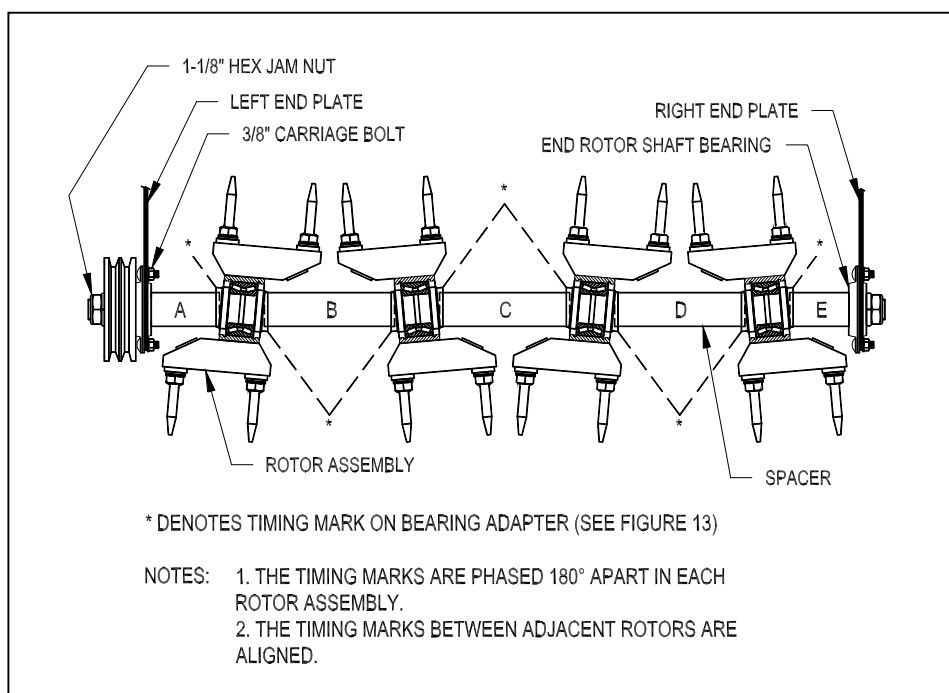

Figure 9. Rotor Shaft Assembly
3. Remove 3/8" carriage bolts holding end rotor shaft bearings (see Figure 9).
1. Remove the 1-1/8" hex jam nut from the shaft nearest to the damaged rotor (see Figure 9).
3. Install the required components in the sequence shown in Figure 9, double-checking the timing mark locations and spacer lengths (see following table) as each rotor is installed.
Reinstall the rotor shaft into main frame by reversing the shaft removal steps outlined in I-A. Refer to Figure 9 for correct location of bearing stampings, bolts, etc. Tighten the 3/8 flange lock nuts at each bearing to 35 ft-lbs.